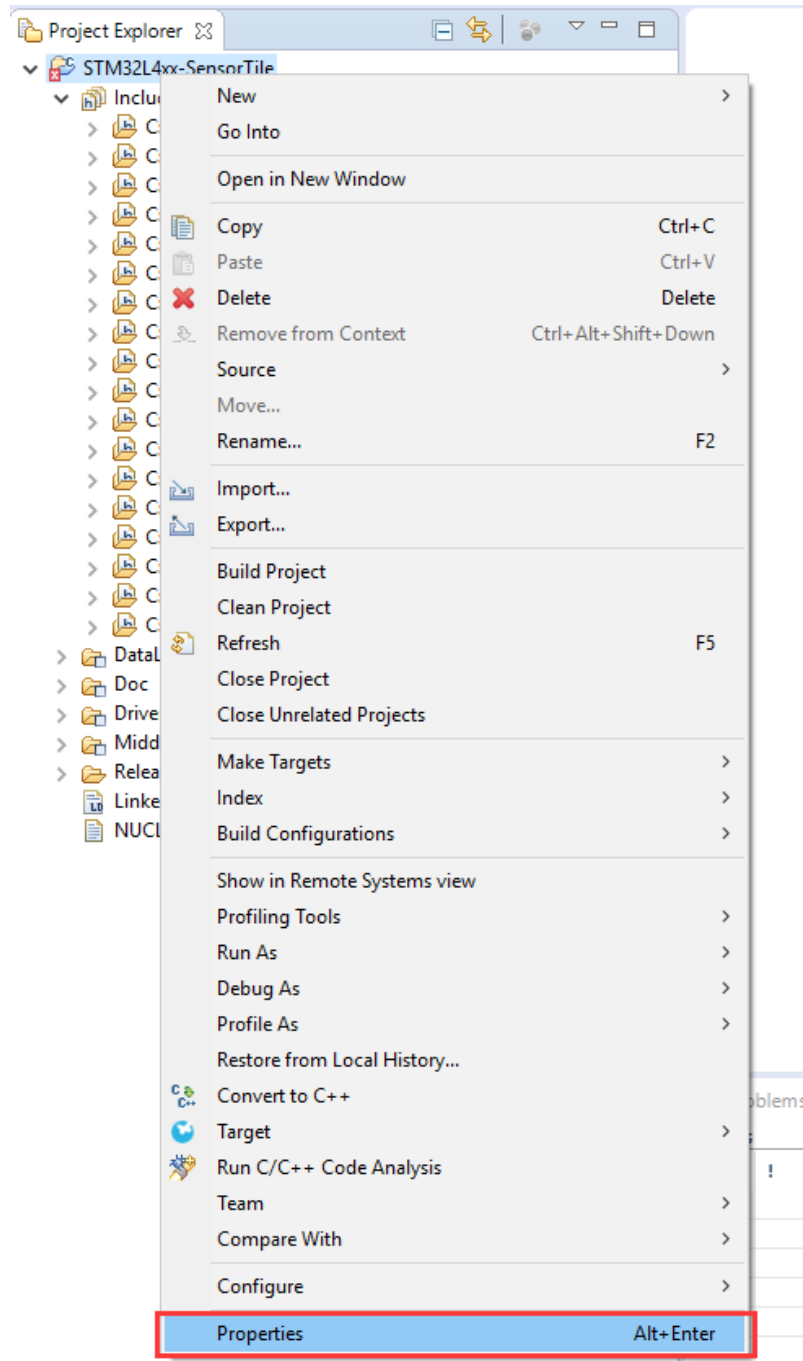

Figure 8: Open project properties.
10. Right-click on **STM32L4xx-SensorTile** and select **Properties**. See Figure 8.